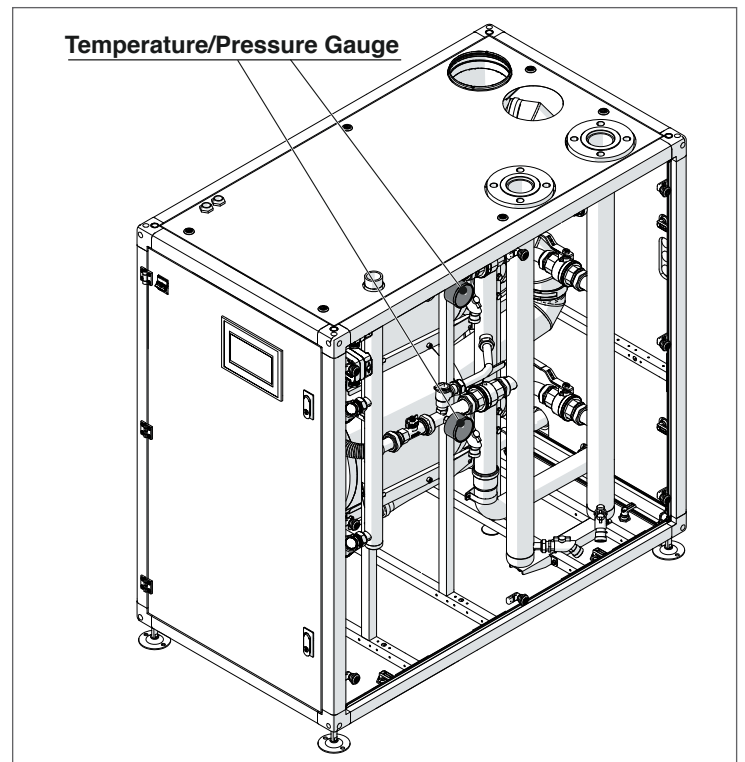

Fig. 52 Temperature/Pressure Gauge location
- Open the fill valve and proceed to fill the heating system and boiler until the pressure gauge (shown on Fig. 52), reads the pressure for which the heating system is sized. The heating system water pressure must be higher than 7.5 PSI.
Open the filling valve and check the pressure on the temperature/pressure gauge of Fig. 52.